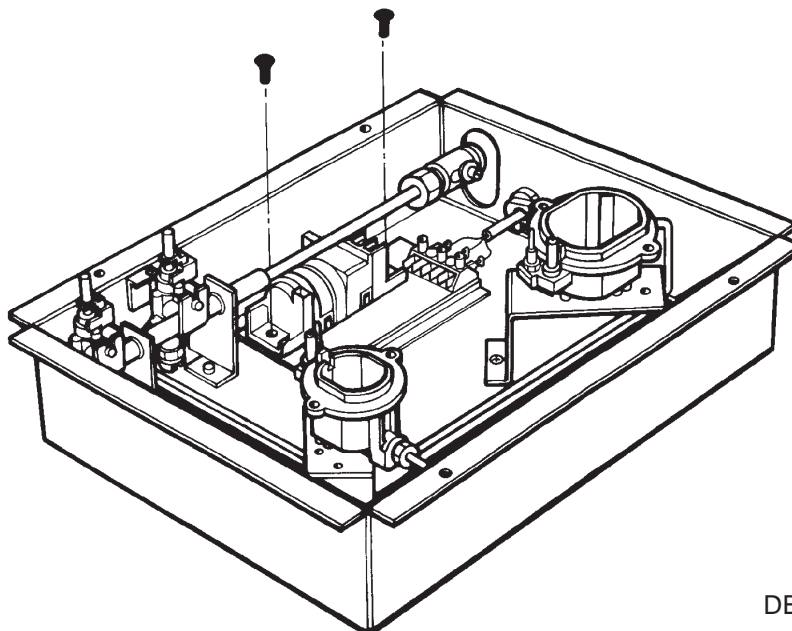

Fig. 5
4. Remove the two screws retaining the generator to the hob chassis (See Fig. 5), and remove generator.